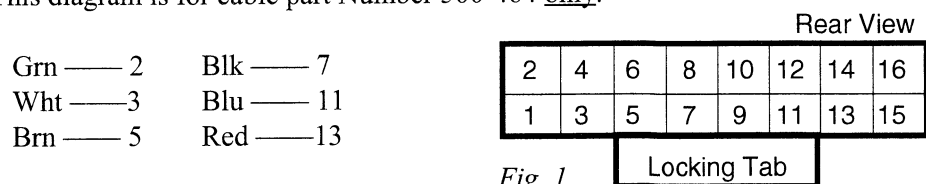

Fig. 1
11. Insert the crimp pins into the shell as follows, using Fig. 1 as a guide:
13. Position the connector so that the locking tab is downward, as in Fig. 1, and plug it into the 16 pin accessory jack on the back of the GR1225 Transceiver.